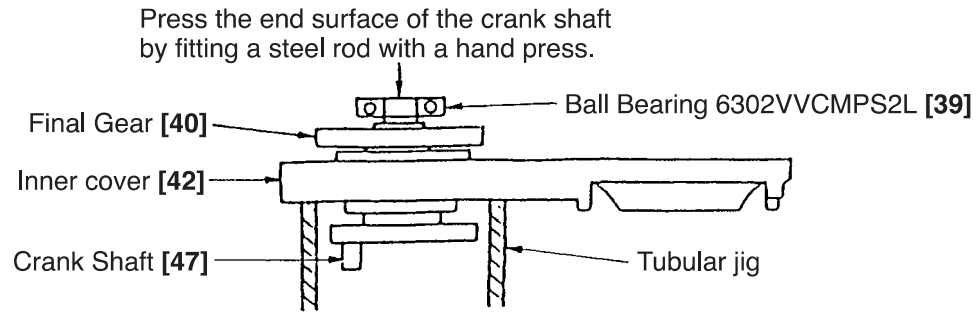

Fig. 2
(2) Disassembly of the Crank Shaft [47] section:
First, remove the four Seal Lock Hex. Socket Hd. Bolts M5 x 16 [46] which fix the Bearing Cover [45]. Then, as illustrated in Fig. 2, support the lower surface of the Inner Cover [42] with an appropriate tubular jig, align an appropriate steel rod with the end surface of the Crank Shaft [47], and press down on the steel rod with a hand press. The Ball Bearing 6205DDCMPS2L [44], Distance Ring (B) [41], Final Gear [40], two Woodruff Keys 4 x 16 [71], and Crank Shaft [47] can then be disassembled from the Inner Cover [42].